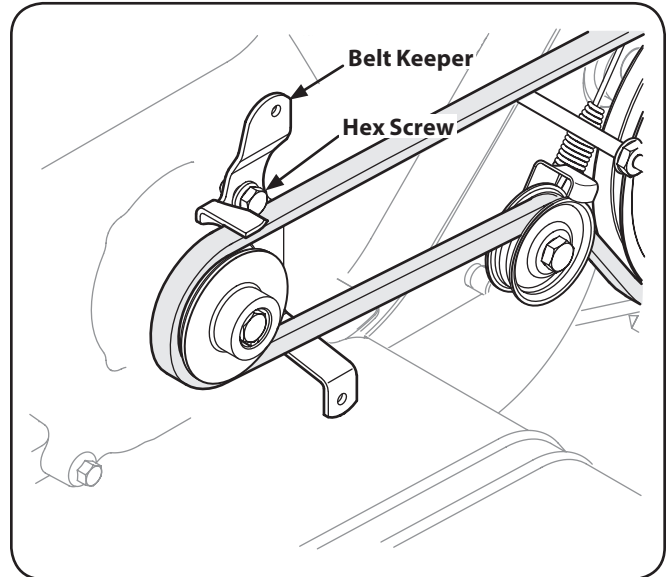

Figure 7-3
4. Using a ½" wrench, remove the hex screw securing the belt keeper to the engine. See Figure 7-3.